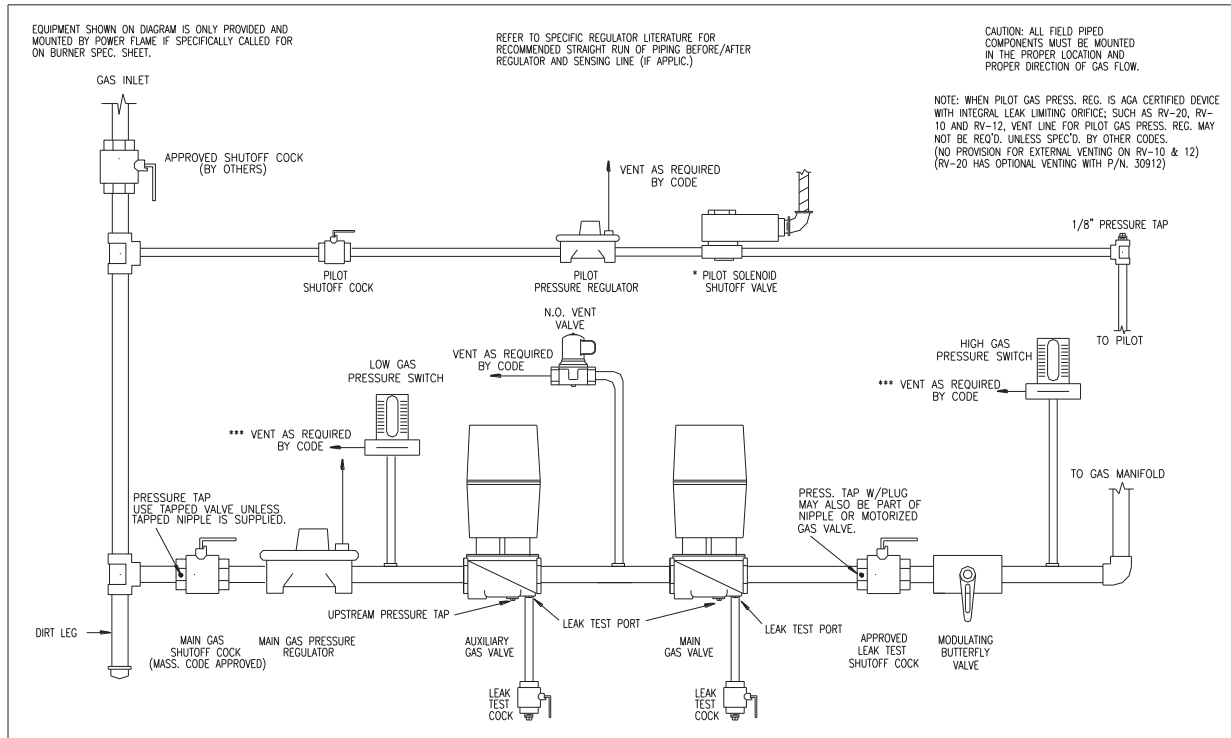

Figure 3: Typical Gas Piping Schematic for Model CM Burner, UL Listed
- 2.1.6 Refer to Figure 3 for the typical gas piping schematic to meet U.L. requirements in the CM burner firing ranges.